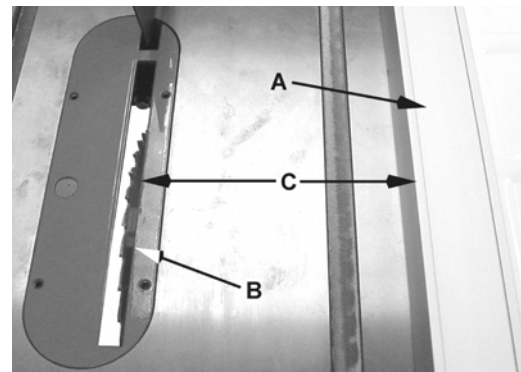

Figure 31
The *rip fence* (A, Fig. 31) should be set for the *width of the cut* (C, Fig. 31) by using the scale on the front rail, or by measuring the distance between the blade (B) and fence (A). Stand out of line with the saw blade and workpiece to avoid sawdust and splinters coming off the blade or a kickback, if one should occur.